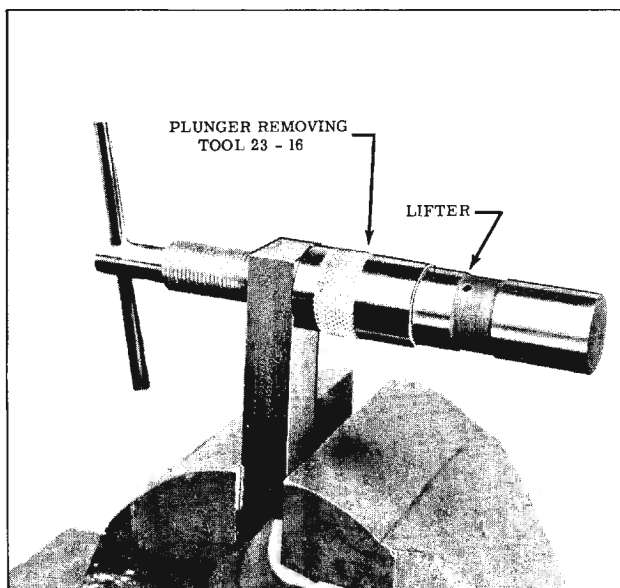

Fig. 8-14 Removing Plunger
3. Remove plunger and plunger spring. If plunger is stuck tight, allow lifter to soak in cleaning solvent for approximately five minutes, then remove plunger. Tool 23-16 may be used if plunger does not fall out. (Fig. 8-14)